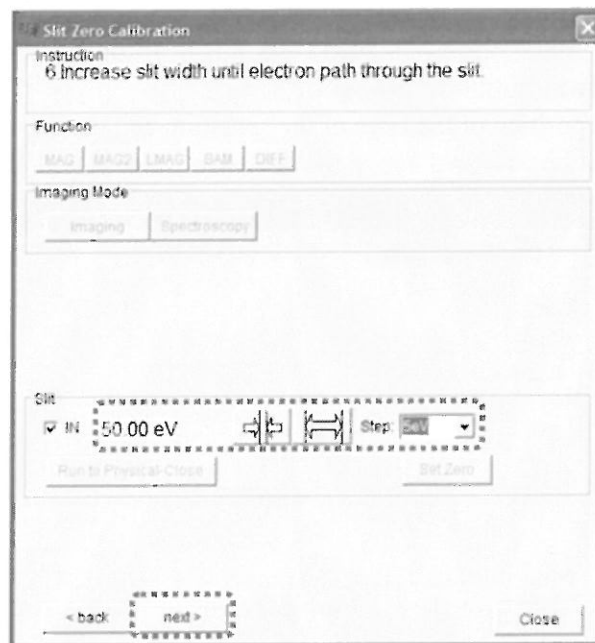

Fig. 5.61 Slit Zero Calibration - 6. Increase slit width until electron path through the slit
- Follow “Instruction – 6. Increase slit width until electron path through the slit”, and increase the slit width gradually until the gap of the slit is visible (Fig. 5.61). When the gap of the slit is visible, click the **next** button to proceed.